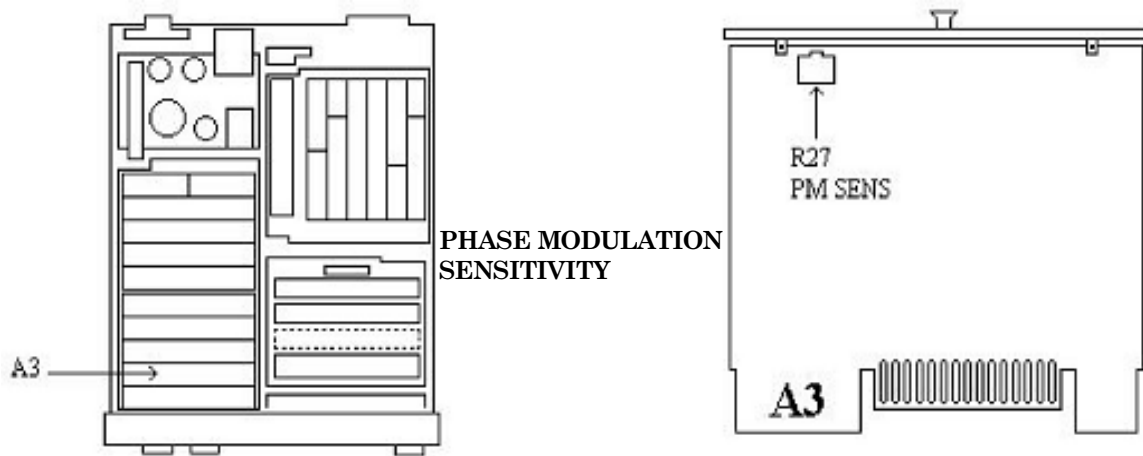

Figure 10. A3 board.
- (33) Set calibrator for a wideband output frequency of 1 kHz at an amplitude of 500 mV.
- (34) Move TI sensor module from AM/FM test source **FM OUTPUT** to **FM/4 OUTPUT**.
- (35) Adjust AM/FM test source **CARRIER FREQUENCY TUNE** for a TI indication of approximately 100 MHz.
- (36) Press TI keys as listed in (a) and (b) below:
- (37) Adjust calibrator output for a TI indication 100 kHz.
- (38) Press TI **MEASUREMENT Φ M** key.
- (39) Adjust A3R27 PM SENS (fig 10) for a TI indication of 100 ± 0.2 rad. (R)
- (40) Reduce all outputs to minimum and disconnect equipment setup.